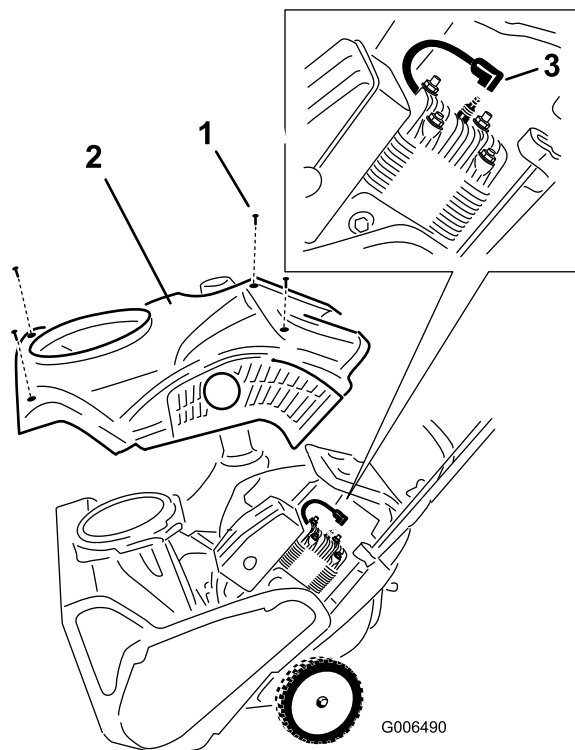

Figure 22
4. Remove the 4 screws that secure the shroud (Figure 22).
6. Remove the shroud (Figure 22).